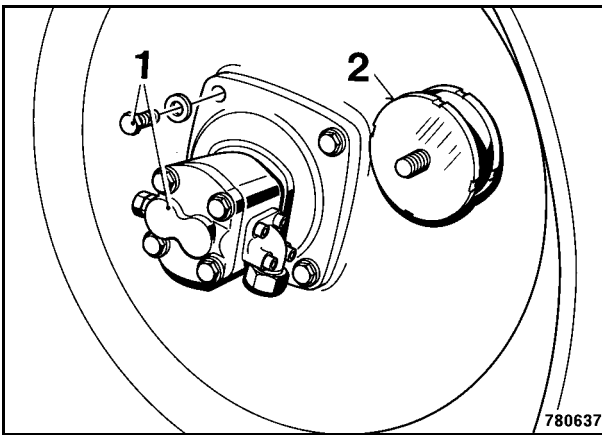
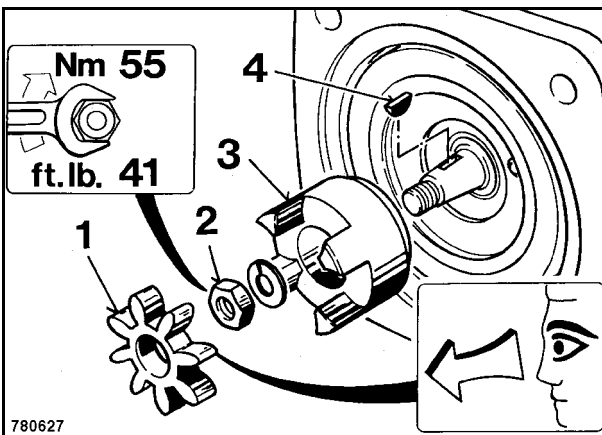
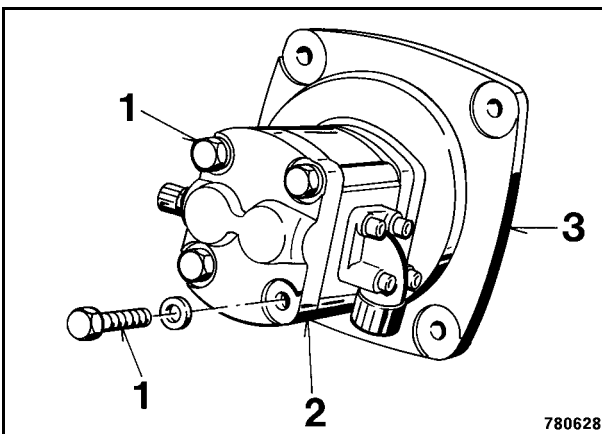

Fig. 4
Fig. 5
Fig. 6
6. Remove the vibration motor 1 (Fig. 4).
7. Check the rubber buffers (2) for wear, if necessary unscrew from the bearing cover by using an appropriate special tool.
8. Remove the elastic coupling 1 (Fig. 5).
9. Unscrew nut (2) and pull the coupling hub (3) off with a puller.
10. Remove fitting key (4).
11. Unscrew both fastening screws 1 (Fig. 6) and separate the vibration motor (2) from the flange (3).